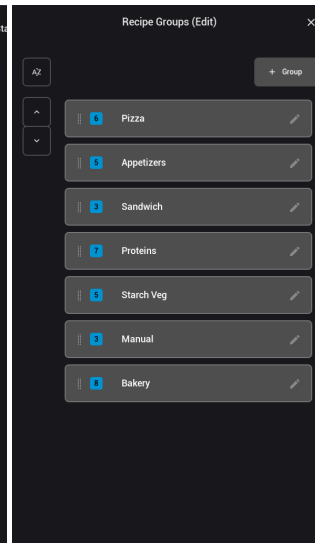

Figure 17: Edit Mode: Group Edit
2. Touch the “+Group” button (Figure 17 above).